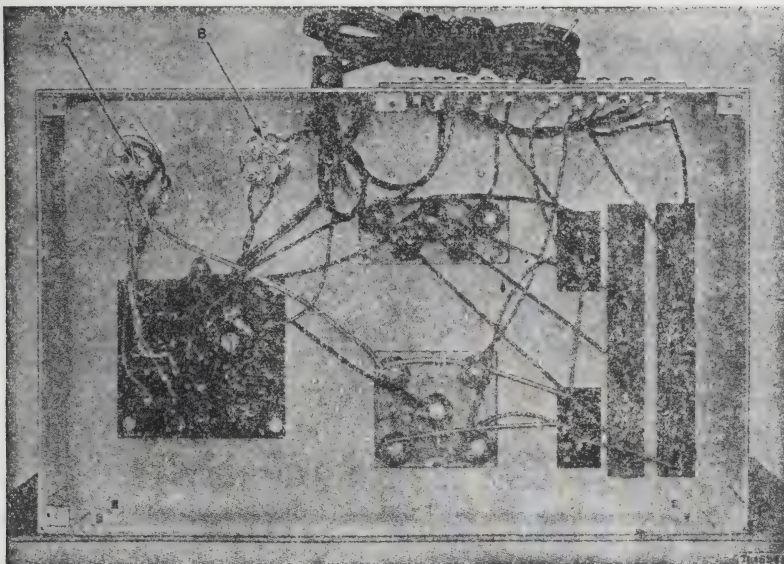

Figure 22. Power Supply Unit RA-94-A, bottom view of chassis, showing masking.
55. Power Supply Units RA-74-(*), RA-84-(*), and RA-94-A (figs. 22 and 23)
b. DISASSEMBLY. (1) Remove the two screws
(1) Contacts of tube sockets (A and B, fig. 22).